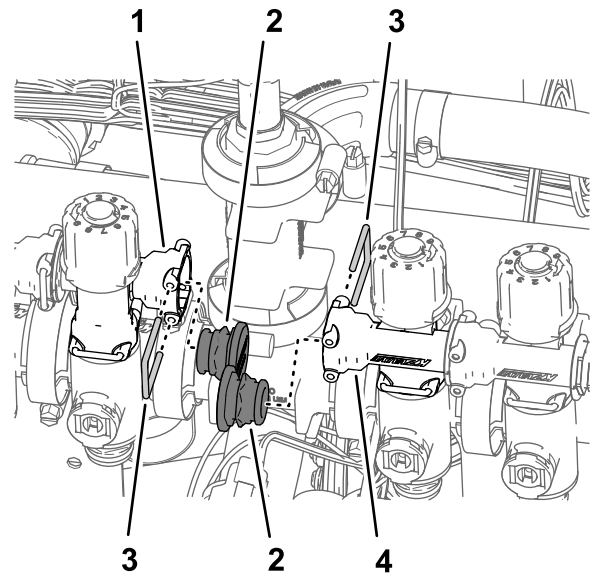

Figure 100
- Remove the retainers that secures the plugs in the sockets of the quick disconnect fitting at the nozzle valve 5 and nozzle valve 6, and remove the plugs (Figure 100).